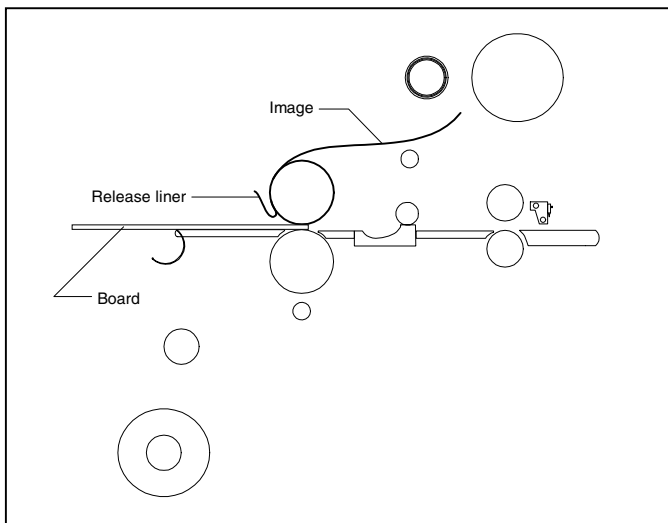

Fig. 40
#### TIPS FOR MOUNTING A DECAL (Figure 40)
1. Load the laminator as illustrated in Figure 40.